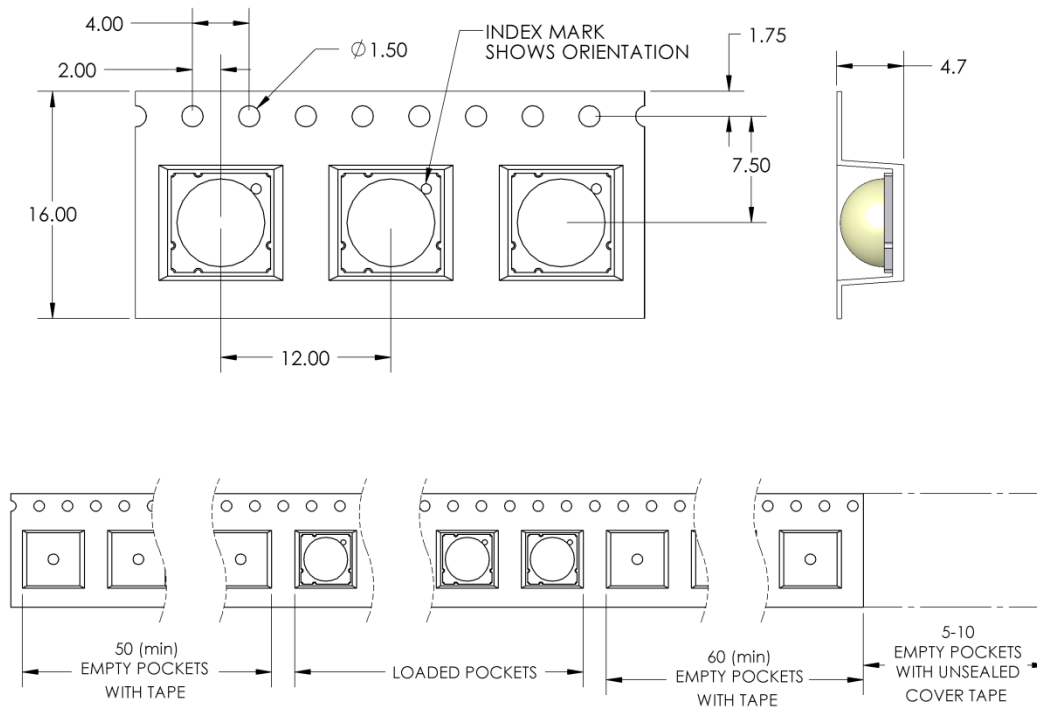

Figure 12: Emitter carrier tape specifications (mm).
- Maximum DC forward current is determined by the overall thermal resistance and ambient temperature. Follow the curves in Figure 12 for current derating. Max current for continues operation is 1.0A